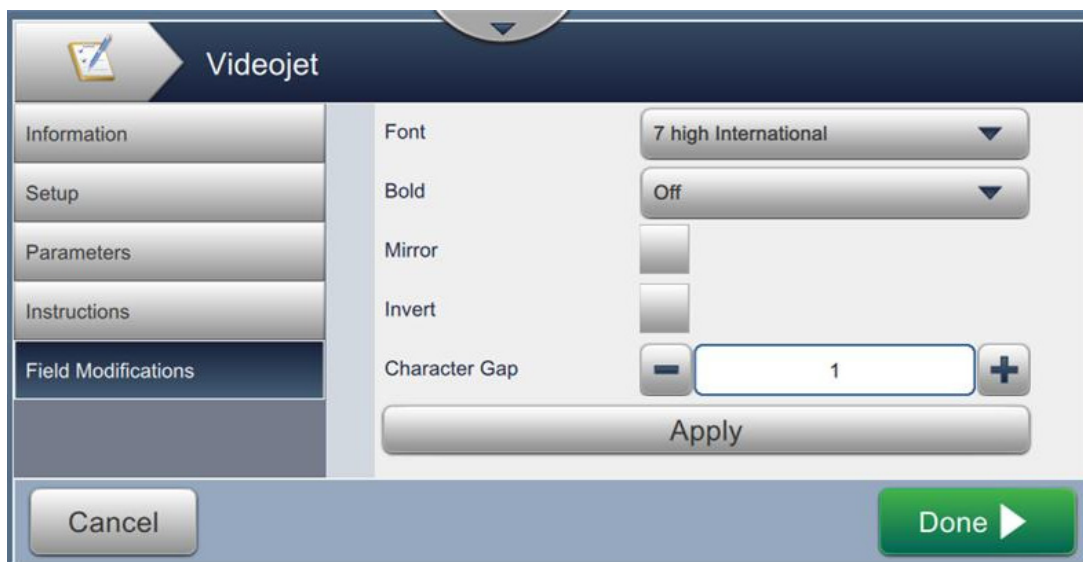

Figure 5-16: Field Modifications Screen
3. Navigate to *Job Settings > Field Modifications* as shown in Figure 5-16.